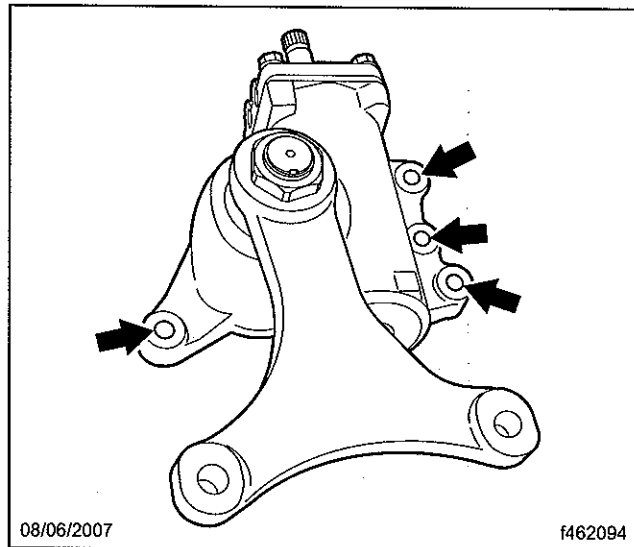

Fig. 2, Steering Gear Mounting Bolts
- 5.1 Using a 1-3/16 impact socket, loosen the four mounting bolts. See **Fig. 2**.